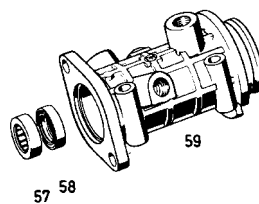

Fig. 32
Using tool [16], press the shaft seal (58) into the valve housing (59) (*Fig. 32*).